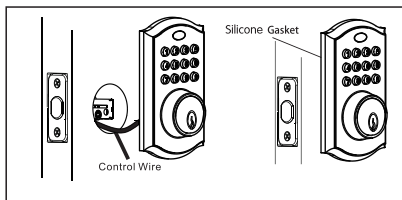

Figure 8a-b
- Check if the Rubber Gasket is properly seated on the Exterior Assembly (Figure 8a-b).